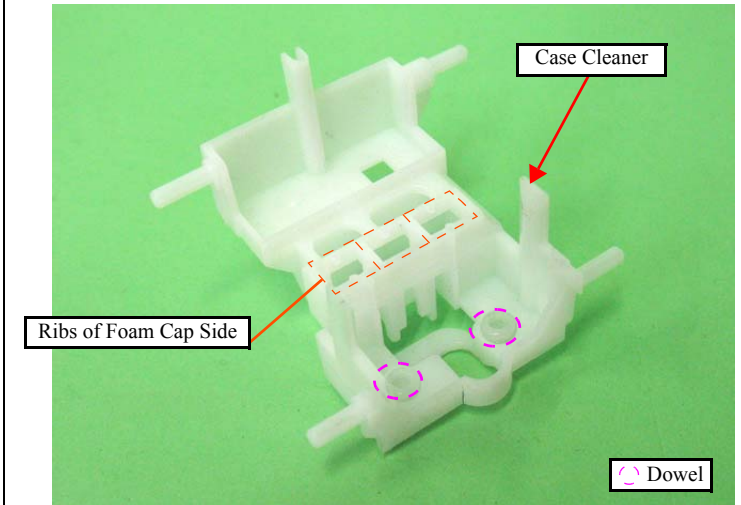

Figure 4-60. Assembling the Cap Assy (1)
- When installing the Foam Cap Side, align the notches of the Foam Cap Side with the ribs of the Case Cleaner, and insert them without any gap. (See Fig.4-60.)